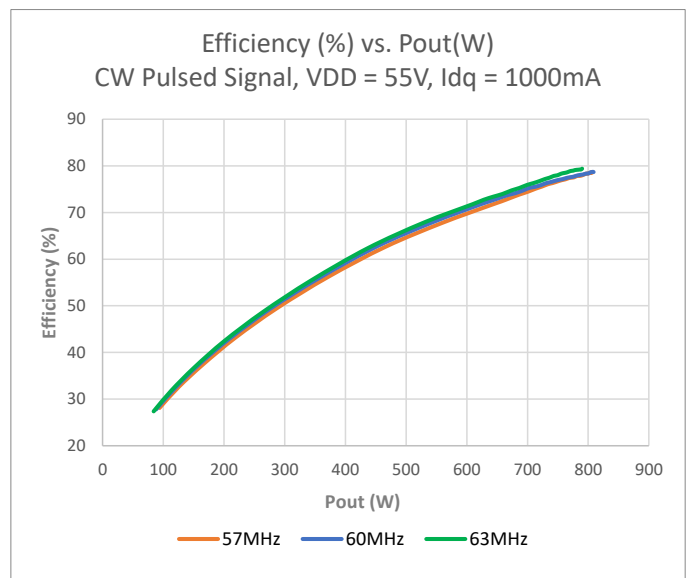

Figure 6 Efficiency (%) over output power (W), CW pulsed signal, VDD = 55V, Idq = 1000mA, PW = 100µsec, δ = 10%
- Figure 6 Efficiency (%) over output power (W), CW pulsed signal, VDD = 55V, Idq = 1000mA, PW = 100µsec, δ = 10% 8